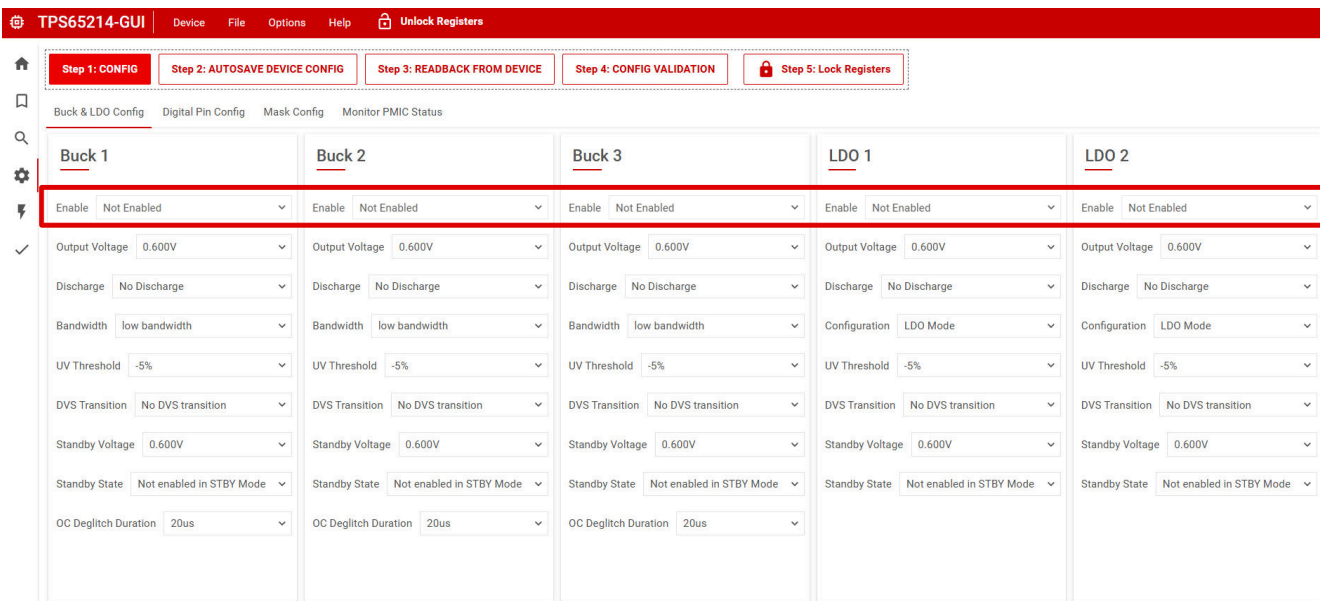

Figure 5-1. Enable Settings Using the TPS65214-GUI
- Figure 5-1 shows the settings to be changed when using the configuration tab of the TPS65214-GUI.